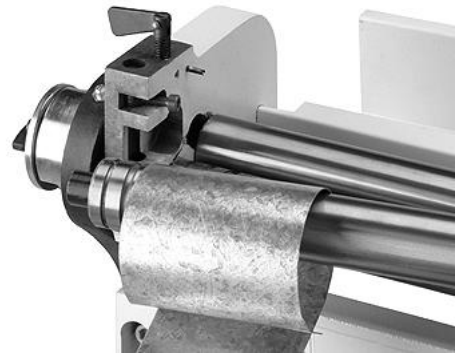

figure 16
11. Turn the notched shaft and slip the upper roll cylinder out to remove the work piece (fig 16).